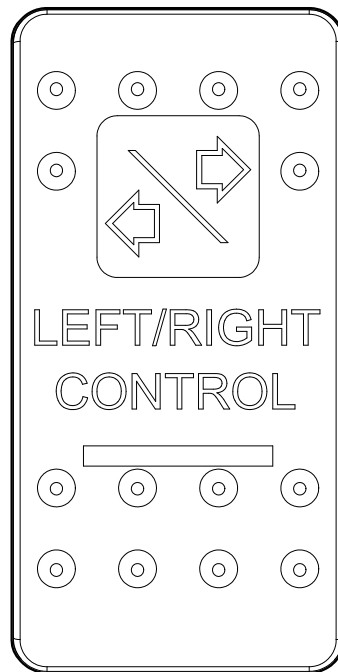

Figure 1
3. For dual drive units only, using the mode switch, select the primary drive position (see Figure 1).